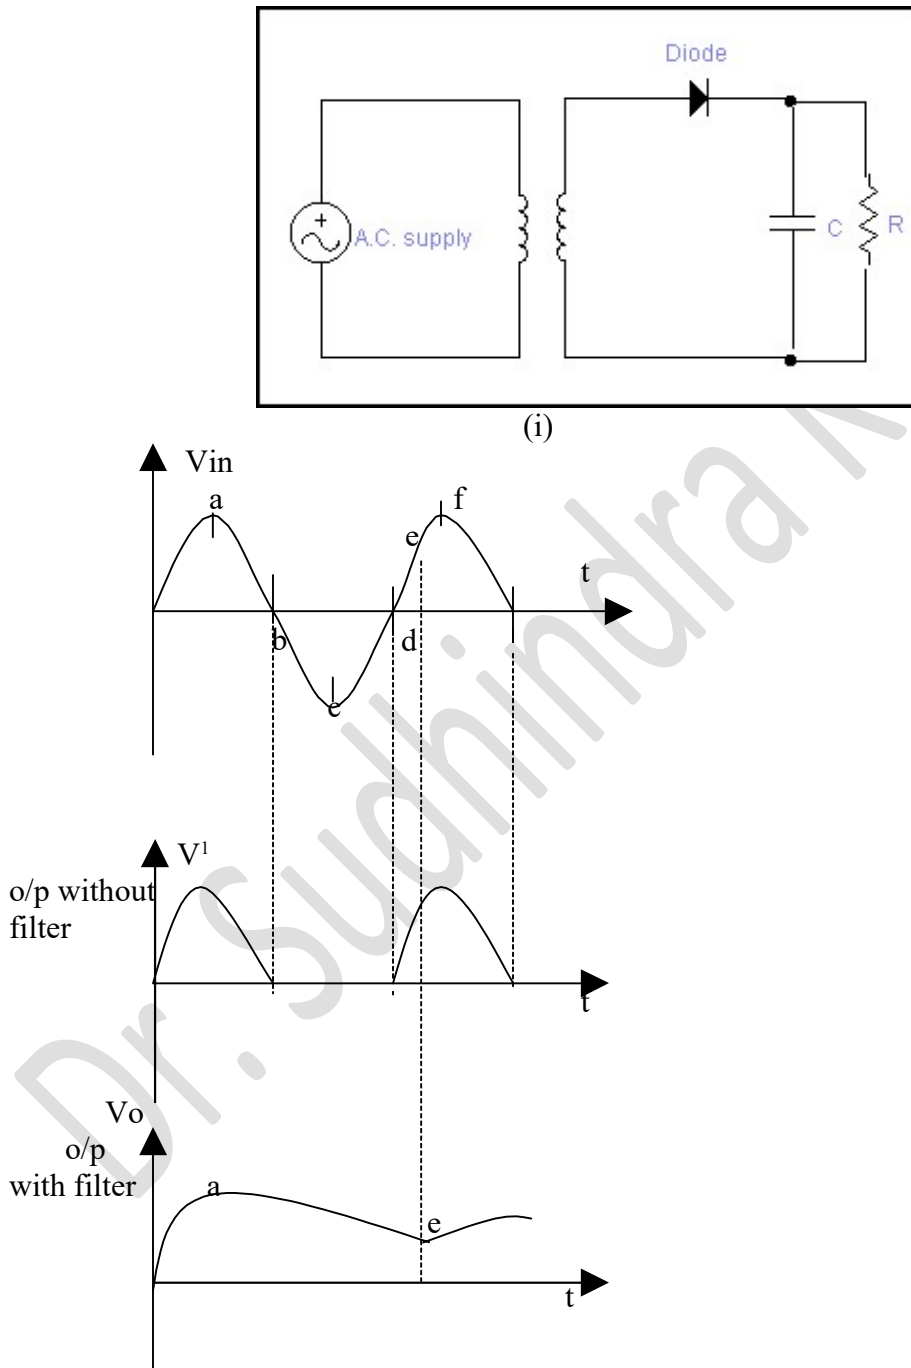

Fig.2.8 Capacitor filter (C-filter) (i) Circuit diagram (ii) waveforms
- When the signal reaches point e, the input voltage can be expected to be more than the capacitor voltage. When the input signal moves from e to f the capacitor gets charged to its peak value again. The diode gets reverse biased and the capacitor starts discharging. The final output across R_L is shown in Fig. 2.8